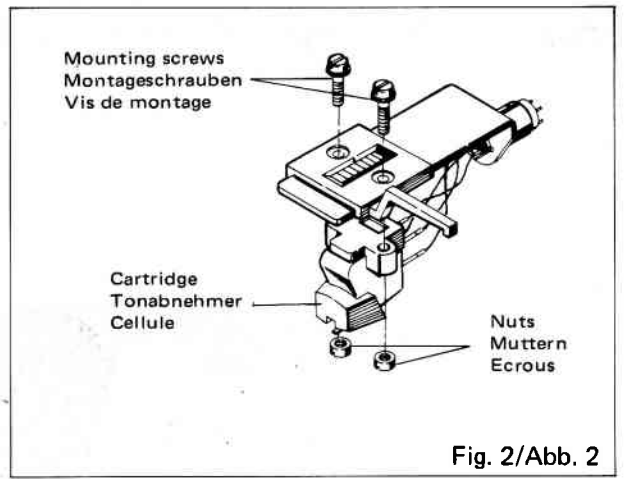

Fig. 2/Abb. 2
1. Attach the cartridge to the cartridge shell lightly, using screws and nuts (Fig. 2).